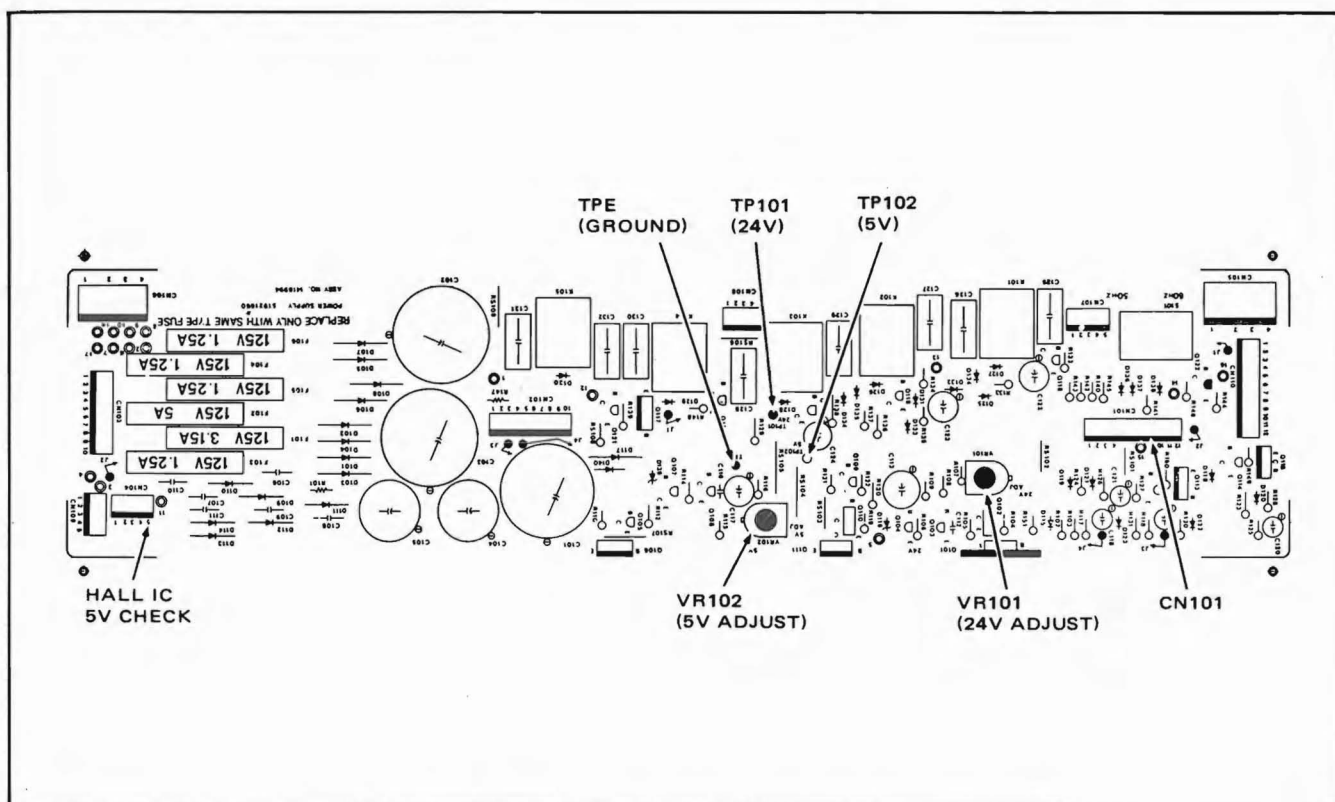
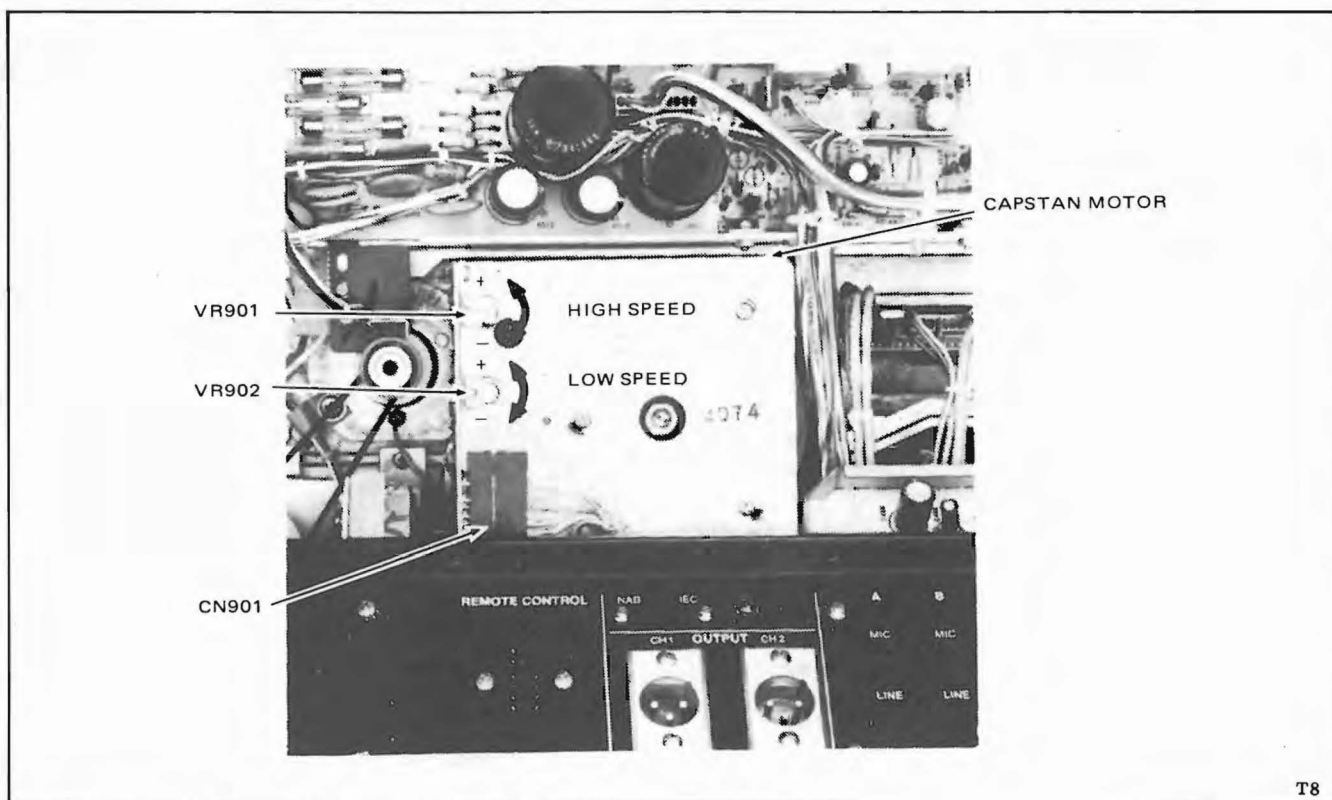

Figure 5-18. DC Voltage Adjustment, Power Supply PWA
Figure 5-19. Tape Speed Adjustments
2. Through the rear of the deck, unplug Control Board Connector CN101 (Figure 5-18) and Capstan Motor Connector CN901 (Figure 5-19).
4. Refer to Figure 5-18 and connect vtm between TP101 (+) and TPE (PWA ground).
- a. Locate the speed adjustment resistors on the capstan motor (see Figure 5-19).